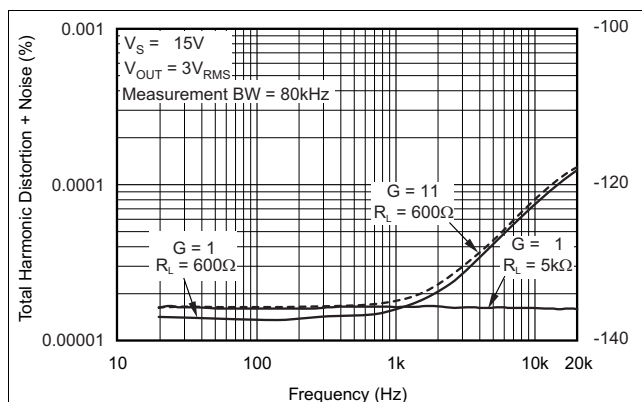
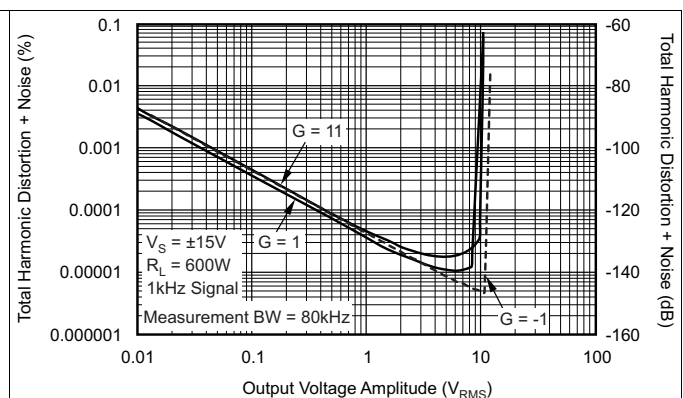
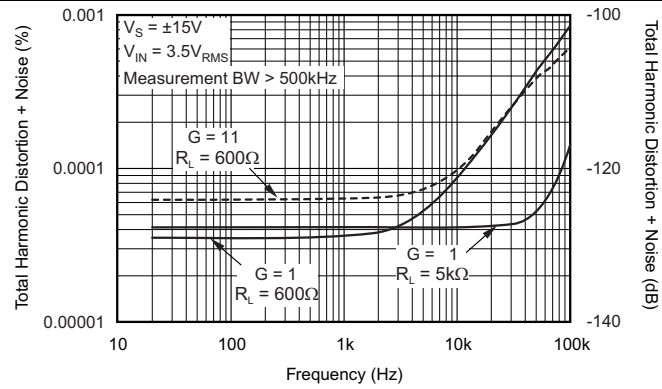

Figure 43. THD+N Ratio vs Frequency
Figure 44. THD+N Ratio vs Output Voltage Amplitude
Figure 45. THD+N Ratio vs Frequency
(1) For measurement bandwidth, see Figure 43, Figure 44, and Figure 45.